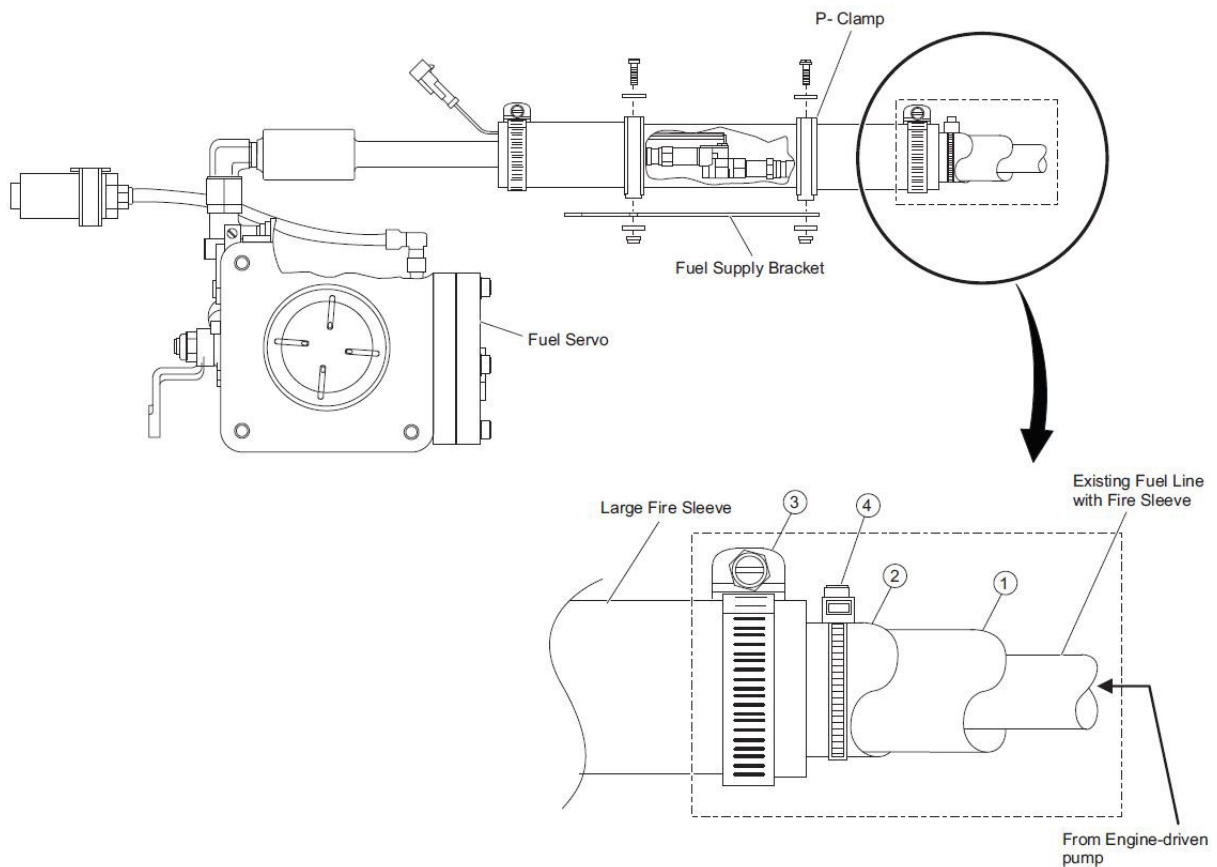
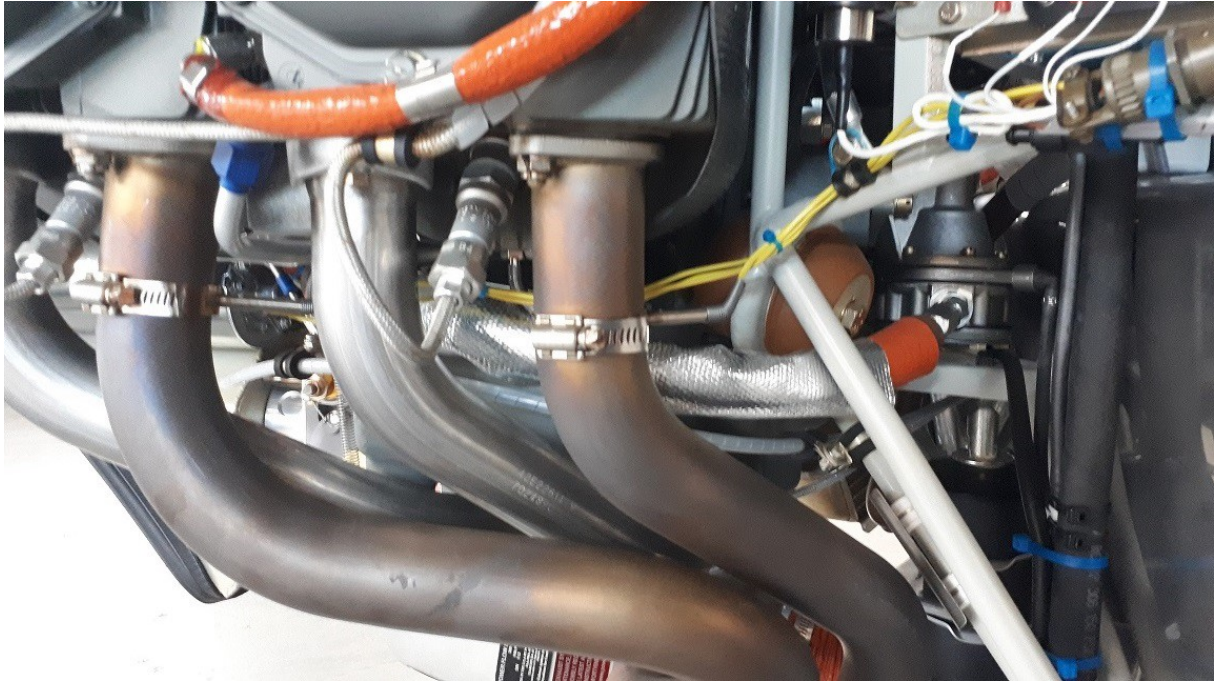

Figure 1. Installation drawing.
Figure 2. Installation, rear view.
NOTE: Refer to Figure 1 for the installation drawing. Refer to Figures 2 and 3 for photos of the installation.
7. Install the new firesleeve (item 1):
- A. Coat both ends of the firesleeve with a first coat of firesleeve end dip (item 5). Ensure 50 mm (2 in) of the inner surface of both ends of the firesleeve are coated.
- E. Install the new firesleeve over the fuel supply line, and under the existing large firesleeve. Refer to Figure 1.
8. Install a new hose clamp (item 3). Ensure the new firesleeve is secure under the clamp.
9. Install the reflective sleeve (item 2). The reflective sleeve should start against the aft end of the existing large firesleeve. Do not insert the reflective sleeve under the large firesleeve.
10. Secure the reflective sleeve with a fire resistant cable tie (item 4).